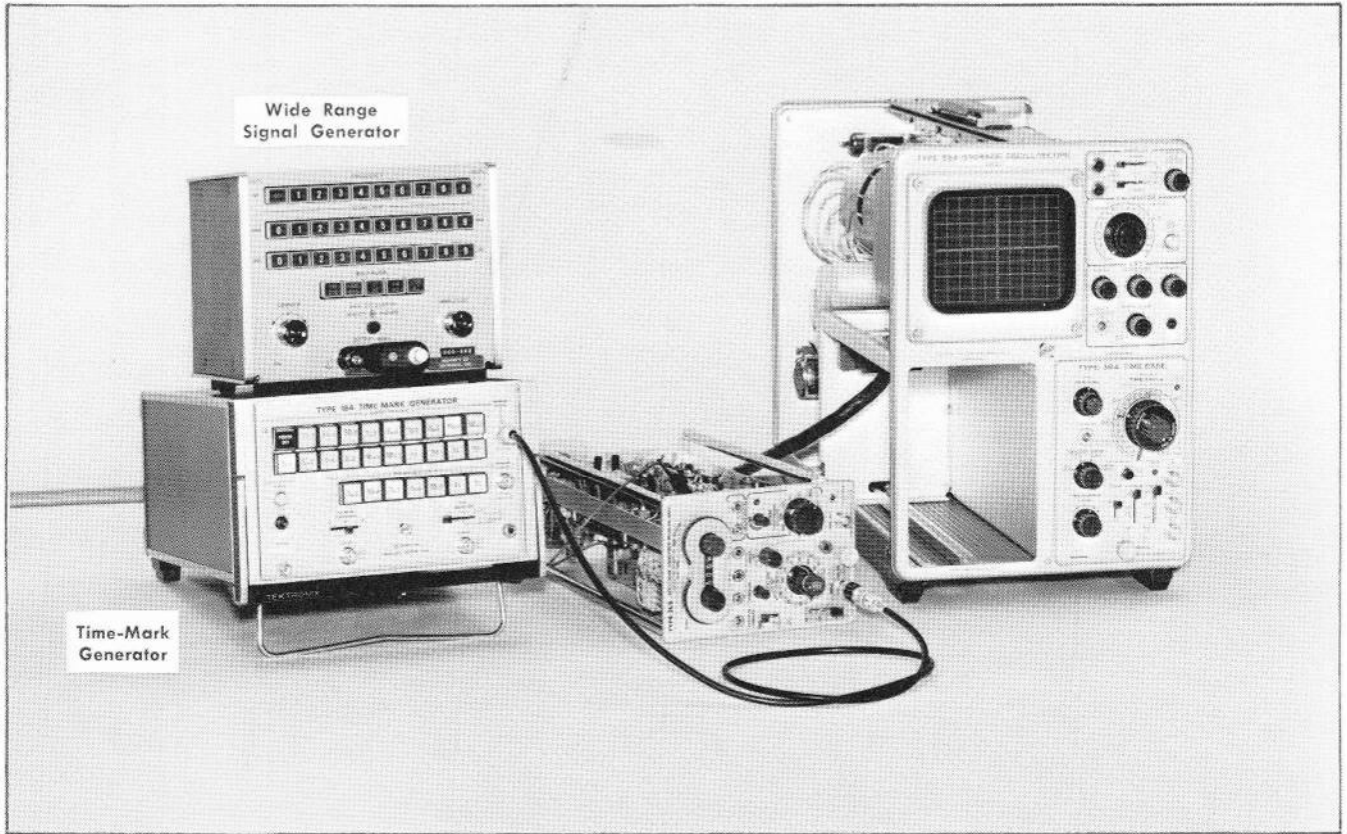

Fig. 6-11. Equipment setup for adjusting or checking dispersion, and center frequency.
- a. Equipment setup is shown in Fig. 6-11.